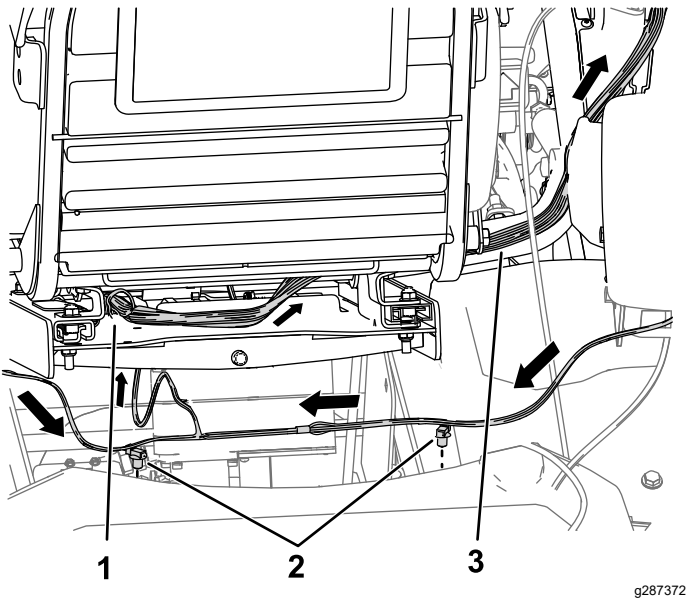

Figure 3
5. Locate the 2 push-in fasteners on the wire harness and install the fasteners into the frame tube (Figure 3).
6. Route the remaining wire-harness leg up through the bottom of the seat plate and following the machine wire harness towards the console (Figure 3).